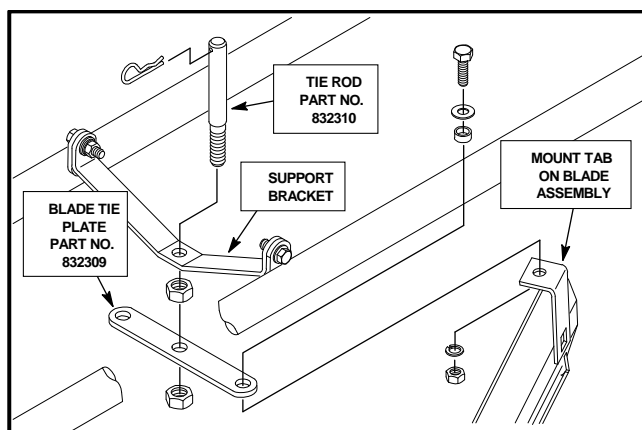

Figure 41
2. Locate the blade tie plate (Part No. 832309) from the Accessory Kit. Align the mounting tabs on the ends of the blades with the outside holes on the blade tie plate (See Fig. 41).
3. Slide one (1) flat washer (Part No. 306981) and one (1) bushing (Part No. 521679) onto one of the 3/8-16 x 1 screws (Part No. 306414), Insert the screw w/washer and bushing (from the top side) through the mounting holes on either the left or right side of the blade tie plate. Secure using one (1) 3/8 lockwasher (Part No. 120177) and one (1) 3/8-16 nut (Part No. 306562).
5. Locate the tie rod (Part No. 832310) from the Accessory Kit. Insert the threaded end of the rod through the hole on the support bracket attached to the push tube (See Fig. 41).
6. When the threaded section of the tie rod passes through the bracket support, thread one (1) 7/16-14 nut (Part No. 304364) onto the tie rod until the nut contacts the shoulder on the tie rod.
7. Insert the threaded end of the tie rod into the center hole of the blade tie plate (See Fig. 41) and secure using the other 7/16-14 nut, Part No. 304364 (when the hardware is secure, the bottom side of the second nut should be flush with the end of the tie rod).